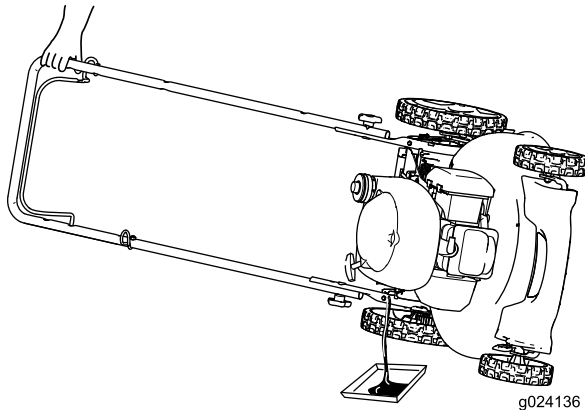

Figure 18
3. Tip the machine onto its side, with the dipstick down, to drain the used oil out through the oil-fill tube (Figure 18).